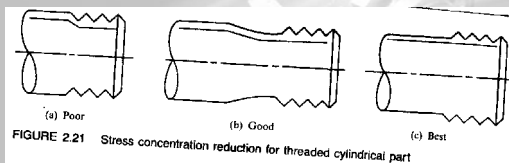

FIGURE 2.21 Stress concentration reduction for threaded cylindrical part
- Thread root diameter equals the adjacent shank diameter. (Fig. 2.21)
Stress concentration (Fig. 2.21)